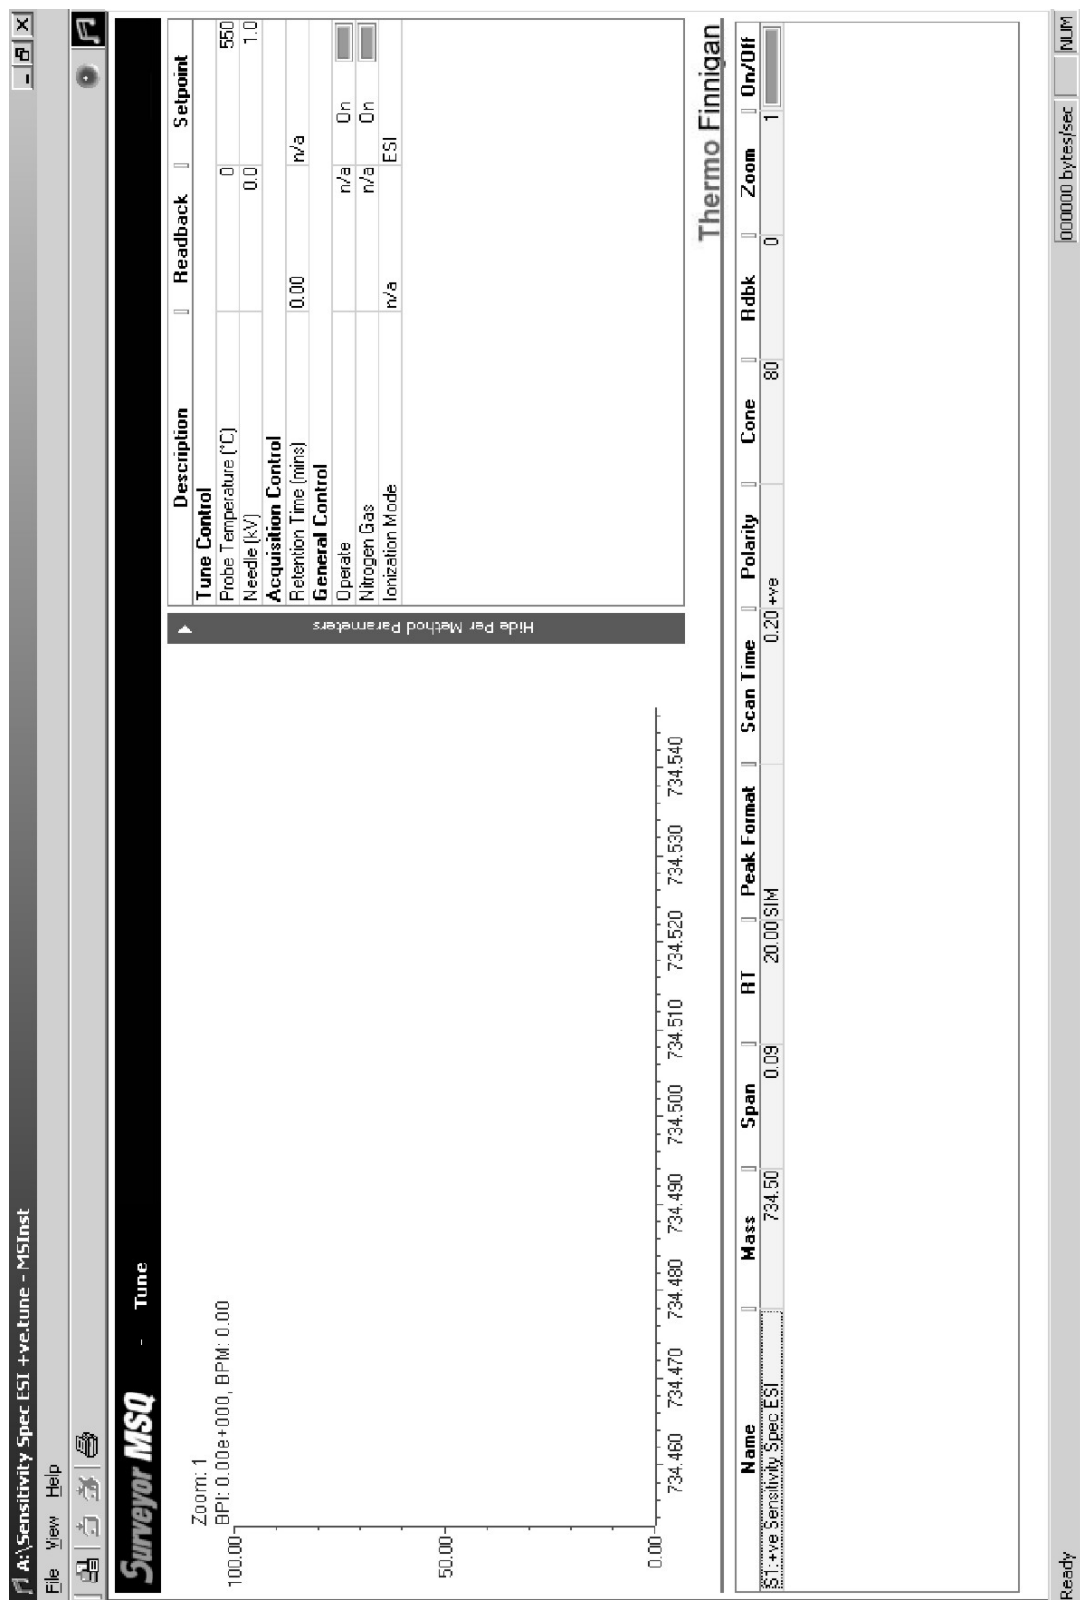

Figure 2-17. Tune window with ESI +ve acquisition parameters
- Check that the parameters are the same as those shown in Fig 2-17.
- The parameters that differ from those shown in Figure 2-17 are the Probe Temperature, Corona (μA), and Ionization Mode (see Figure 2-19).